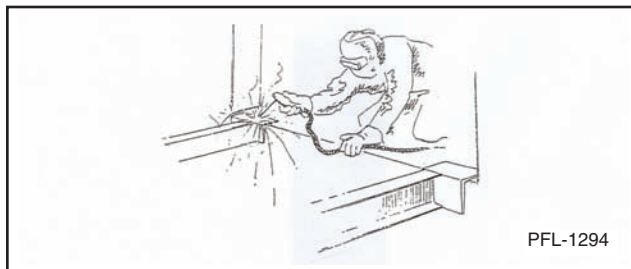

Figure 16
- Recheck and anchor to floor if columns are plumb. Recheck dimensions before fully welding column braces. See Figure 16.